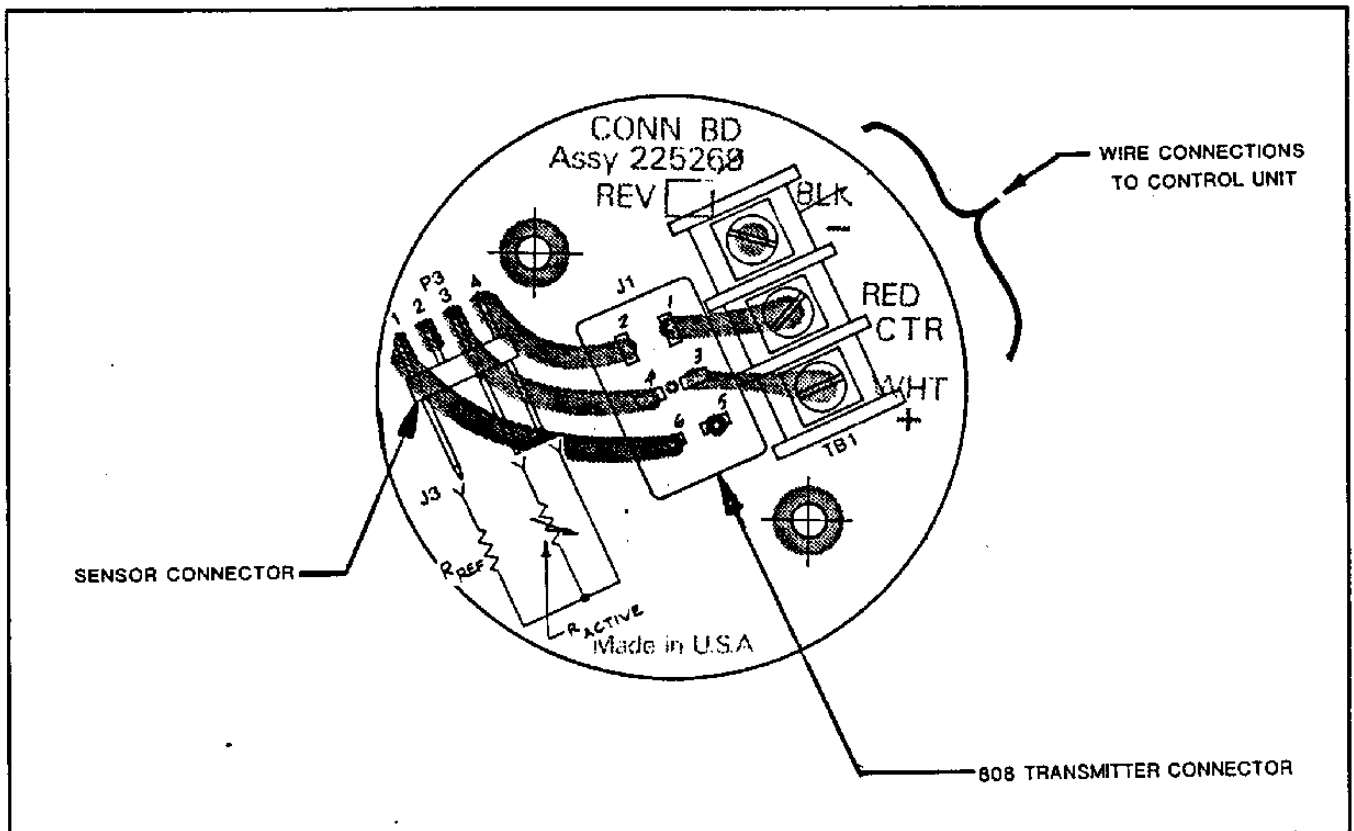

Figure 2-7. Transmitter and Sensor Connector PWA
b. Screw the sensor into the 3/4-inch NPT threaded opening at the bottom of the conduit box and tighten the sensor securely with a wrench. Connect the plug from the sensor to the receptacle on the mother-board (see Figure 2-7). Install the optional dust cover over the sensor if the area is dusty. If desired, a section of conduit up to 50 feet long can be used between the sensor and the conduit box if no. 18 AWG wire is used.